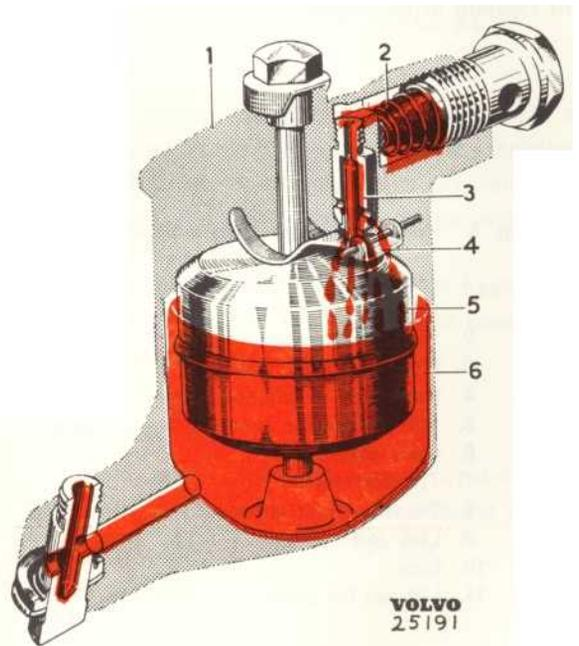

Fig. 7. Float system.
The fuel flow is controlled by the float system so that the correct fuel level is obtained in the carburetor. The fuel system is composed of a float chamber (6 Fig. 7) which is flexibly bolted to the carburetor housing through the medium of rubber washers, a float (5), cover (1) and the flexibly attached lever (4) as well as the needle valve (3), which is attached to the cover. There is a strainer (2) with a spring in the cover. The float is guided by a centre bolt in the float chamber.